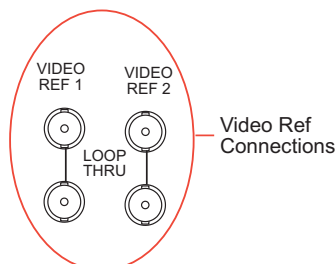

Figure 3-12. Video Reference Connections (Rear View)
- 1 Locate the video reference connections on the rear of the router, as shown in Figure 3-12. Video reference connections are labeled 'VIDEO REF 1' and 'VIDEO REF 2'.